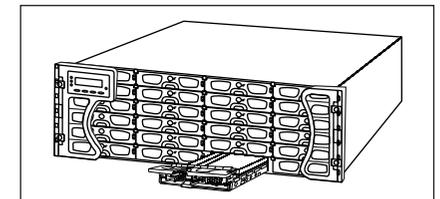

Figure 4: Installing a Drive Tray
- Step 3.** Line the drive tray up with the slot in which you wish to insert it. Make sure that it is resting on the rails inside the enclosure, and then gently slide it in. This should be done smoothly and gently. (See **Figure 4**)